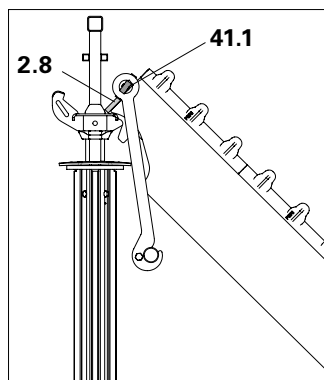

Fig. A11.03
2. Place the Tension Unit Upper Part (41.1) on the end plates of the Main Beam SLT (2.8) and attach the Main Beam to the Drophead SFK. (Fig. A11.03)
4. Mount Base Plate (24) on a sufficiently load-bearing surface area, e.g. using PERI Anchor Bolt 14/20x130, Item no. 124777. Take into consideration the Technical Data Sheet!
5. Insert the Tie Yoke of the Tension Unit Upper Part onto the Tie Rod (41.3), secure with the Hex. Nut SW 30/50 (42), and attach to the Tension Unit Upper Part. (Fig. A11.03 + A11.04)